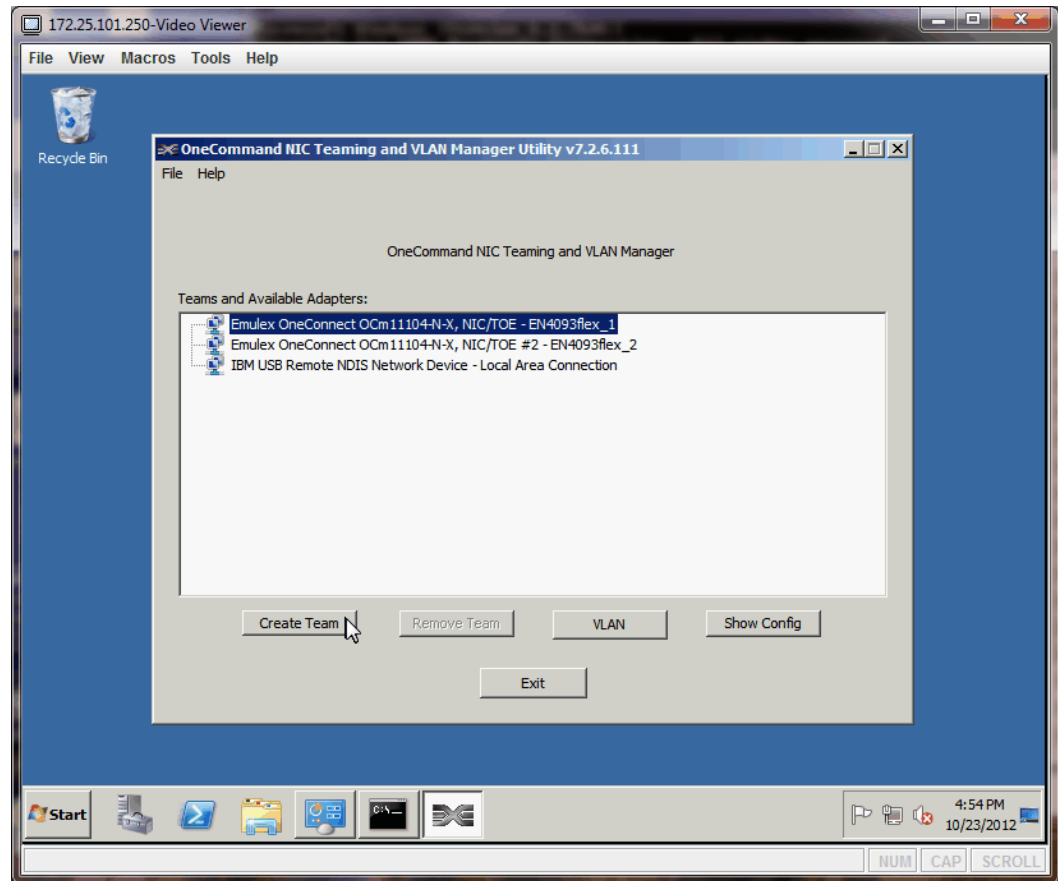

Figure 5-5 Creating a NIC Team in the OneCommand utility
4. After starting the **OneCommand** utility, click **Create Team**, as shown in Figure 5-5.